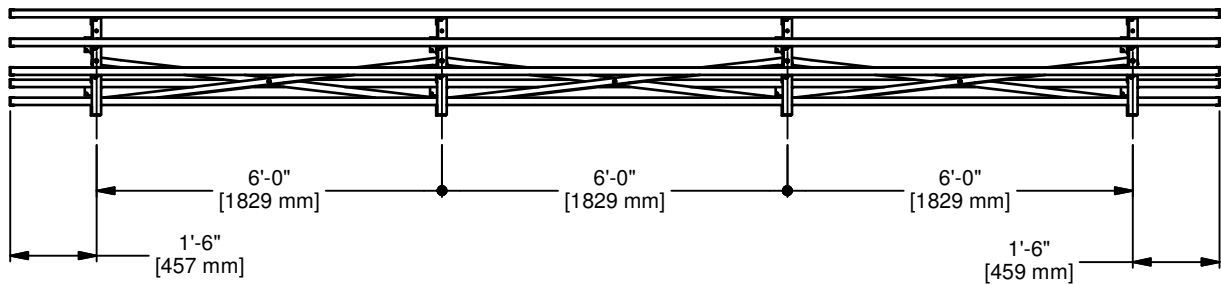

Figure 5
5. Before tightening the foot plank bolts, align all the planks and make sure the planks are centered on the assembled frame. See Figure 5 for reference dimensions.
7. Before tightening the seat plank bolts, align all the planks and make sure the planks are centered on the assembled frame. See Figure 5 for reference dimensions.